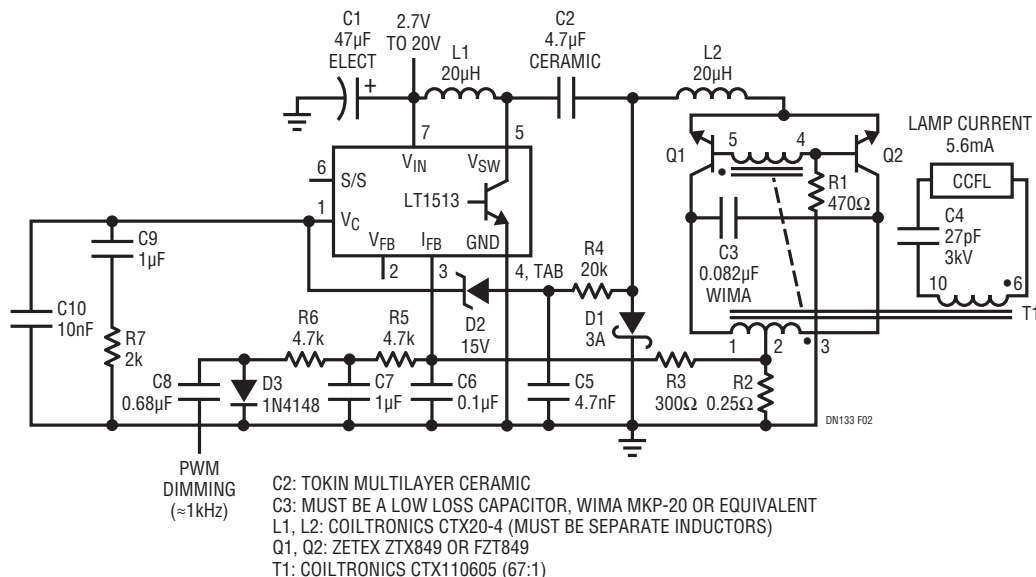

Figure 2. CCFL Power Supply for Floating Lamp Configuration Operates on 2.7V
In some displays that exhibit high capacitance, a floating lamp drive can provide much higher overall efficiency. The operation of the floating lamp circuit shown in Figure 2 is similar to that of the grounded lamp, except for the transformer secondary and the feedback method used. In this circuit, the lamp current is controlled by sensing and regulating the Royer input current. This current is sensed by R2, filtered by R3 and C6 and fed into the I_{FB} pin (3) of the LT1513, thus completing the feedback loop. The sense voltage required at the I_{FB} pin is -100mV. Because the Royer input current rather than the actual lamp current is regulated, the regulation of Figure 2 is not as tight as that of Figure 1.
In both circuits, lamp current can be adjusted downward to provide lamp dimming. A 5V pulse width modulated (PWM) 1kHz signal or an adjustable DC voltage can provide a full range of dimming. In Figure 1, 100% duty cycle represents minimum lamp brightness, whereas in Figure 2, 100% duty cycle is maximum lamp brightness.